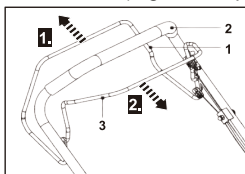

Fig. 24
1. Release the self-propelling lever (1) to stop the self-propelled function (Fig. 24, step 1).
2. Release the brake lever (3) to stop the engine and blade (Fig. 24, step 2).